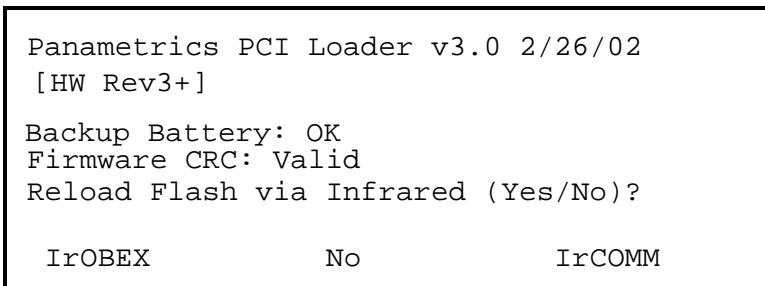

Figure 8-27: Flash Reloading Window
- Press [F3] (OK) to confirm that you wish to erase the program.
4. The meter asks for confirmation. Repeat the options shown in Step 1 above. After the PT878 reboots, the screen appears similar to Figure 8-27 below.